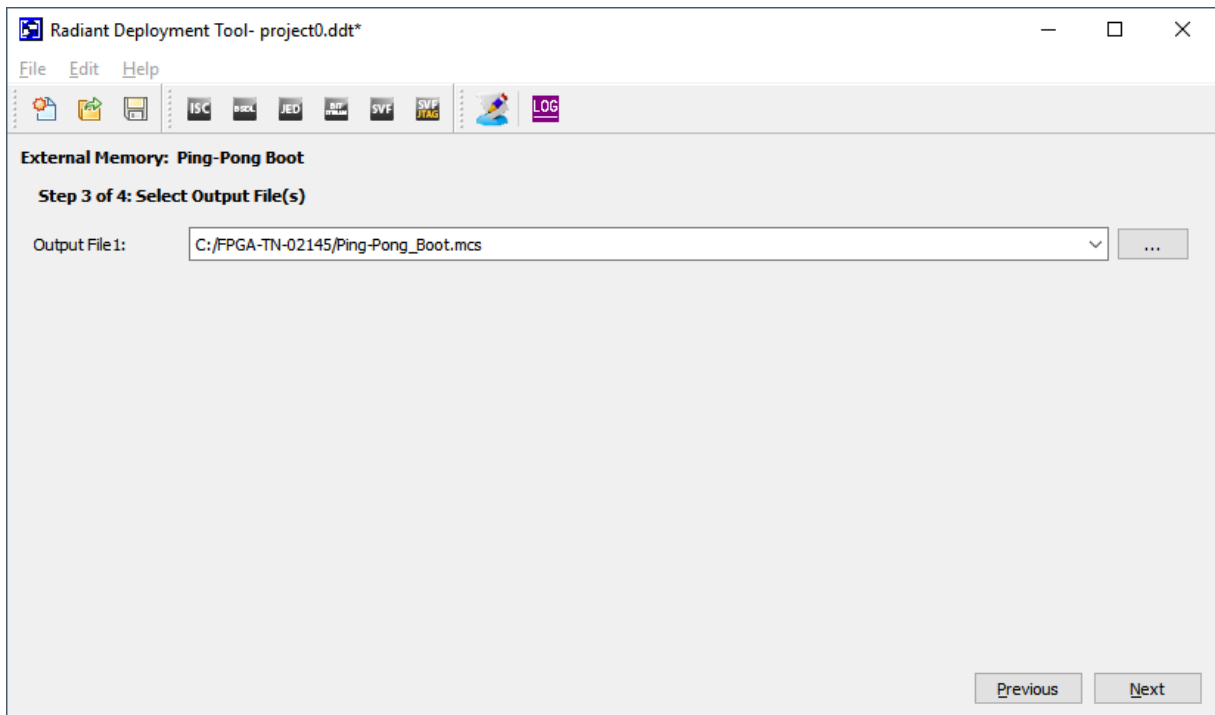

Figure 6.9. Select Output File Window
Step 3 of 4: Select Output File(s) window (Figure 6.9)